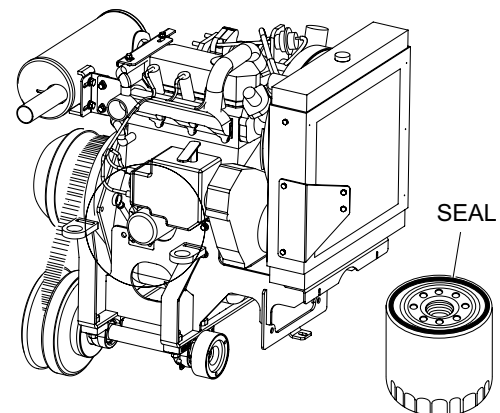

Figure 14. Oil Filter
1. Replace the engine oil filter (Figure 14) every other oil change or 300 hours. Refer to your engine manual for specific details to perform this operation.
2. Be sure to coat the seal (Figure 14) of the new oil filter with clean engine oil.